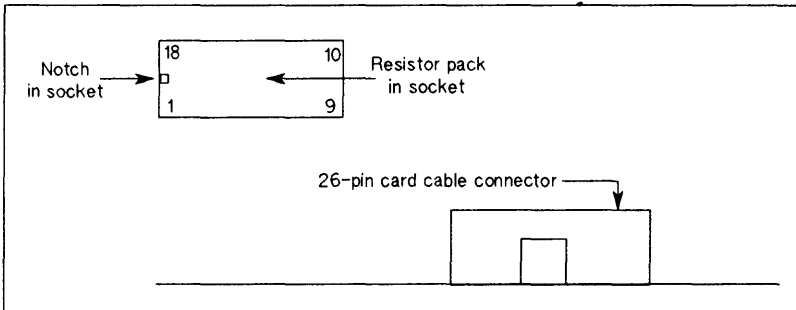

Figure 3-1. Top View of U123 Socket
5. When the HP-IB interface card is the HP-IB System Controller [switch S1(6), marked "SCTL", is in the up, or open, position], the 18-pin Dual In-Line Package (DIP) load resistor pack (1810-0081) must also be installed. Verify that the resistor pack is installed in the socket U123, labeled "HI-SPD", located directly behind connector J2 (peripheral device cable connector), with pins 1 and 18 on the package oriented toward the half-circle notch on the socket. See figure 3-1.